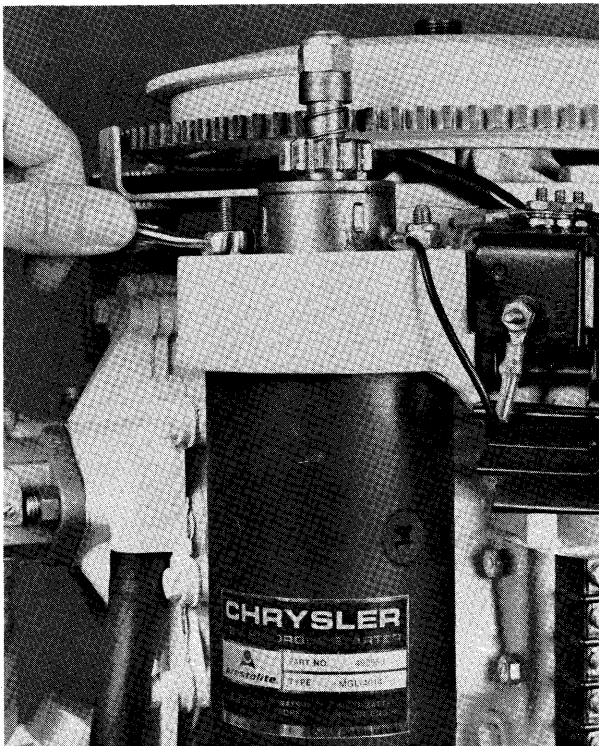

Figure 1A—Removing Starter
- B. Remove two stop nuts securing starter to start bracket (crankcase cover) upper. See figure 1A.